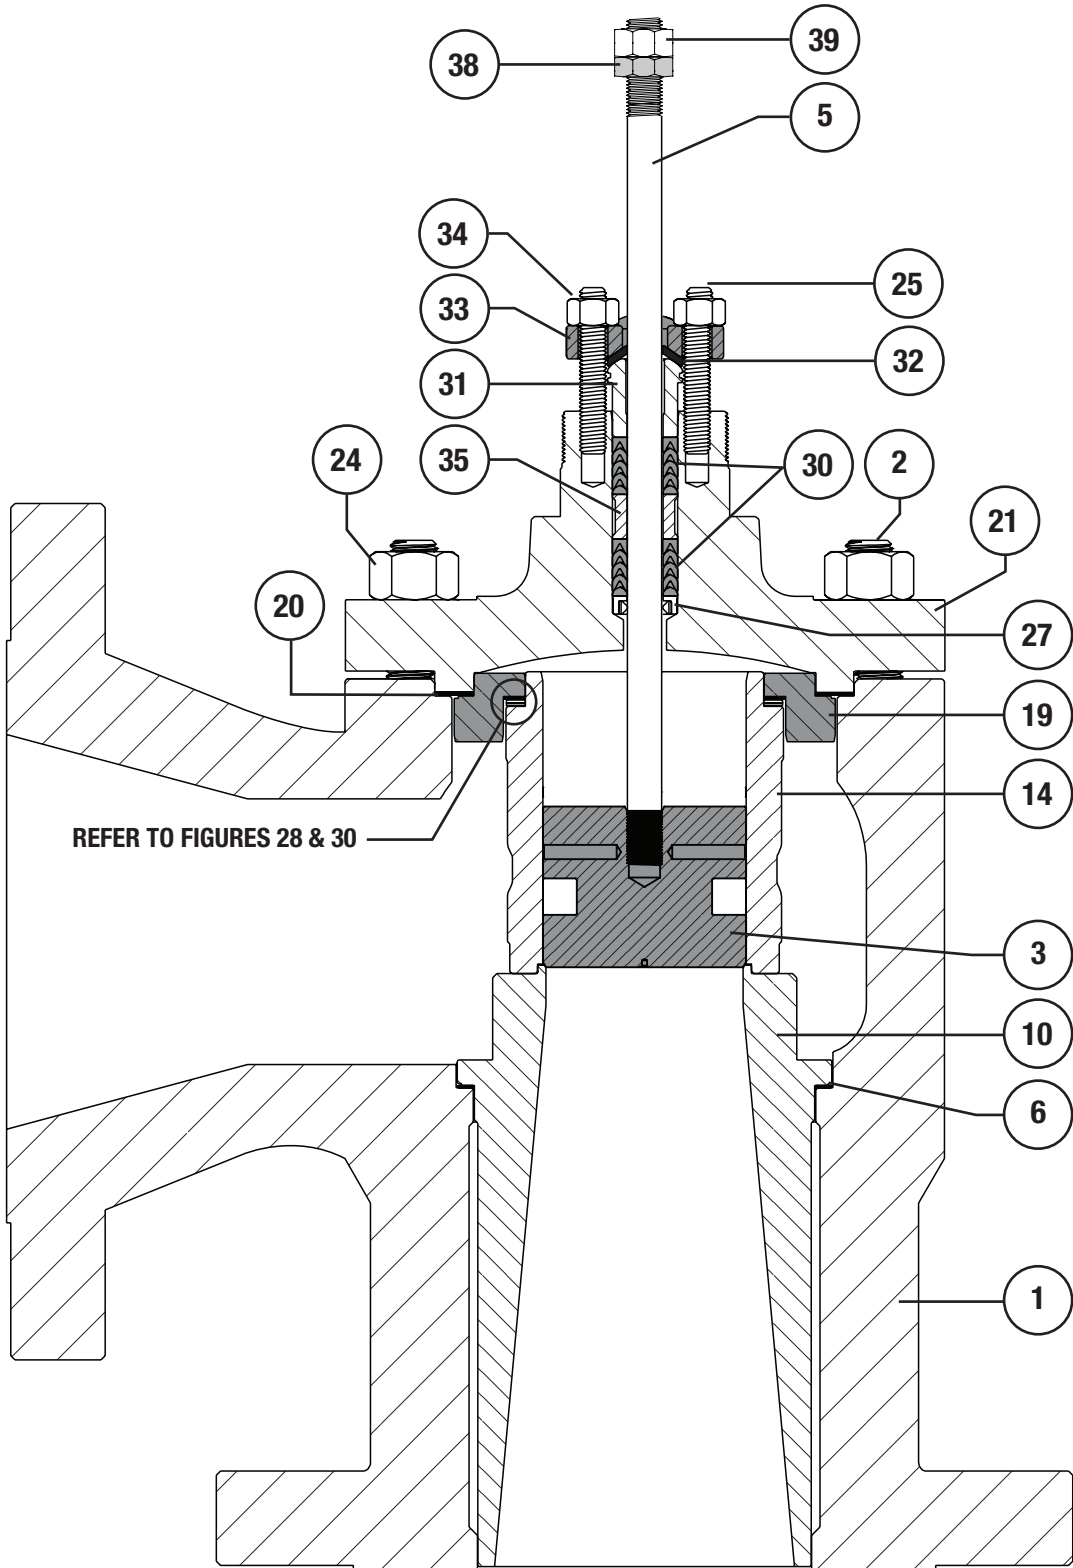

Figure 25 Typical Angle Body Assembly Diagram
- 3 Apply Permatex® Nickel Anti-Seize (Key A) to the upper and lower gasket seating surfaces of the seat ring (Key 9). Install the seat ring into the valve body (Key 1). Refer to Figure 25 for Angle Body Valve Assemblies.